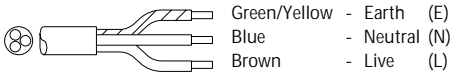

fig. 5
- (Fig. 5) For 220V-240V 1 Phase/neutral with plug socket.
- (Fig. 5) For 220V -240V 1 Phase/neutral (3 core electric cable).
The following remarks apply to figure 5:
The three core main cables (fig. 5) have the following wiring code: